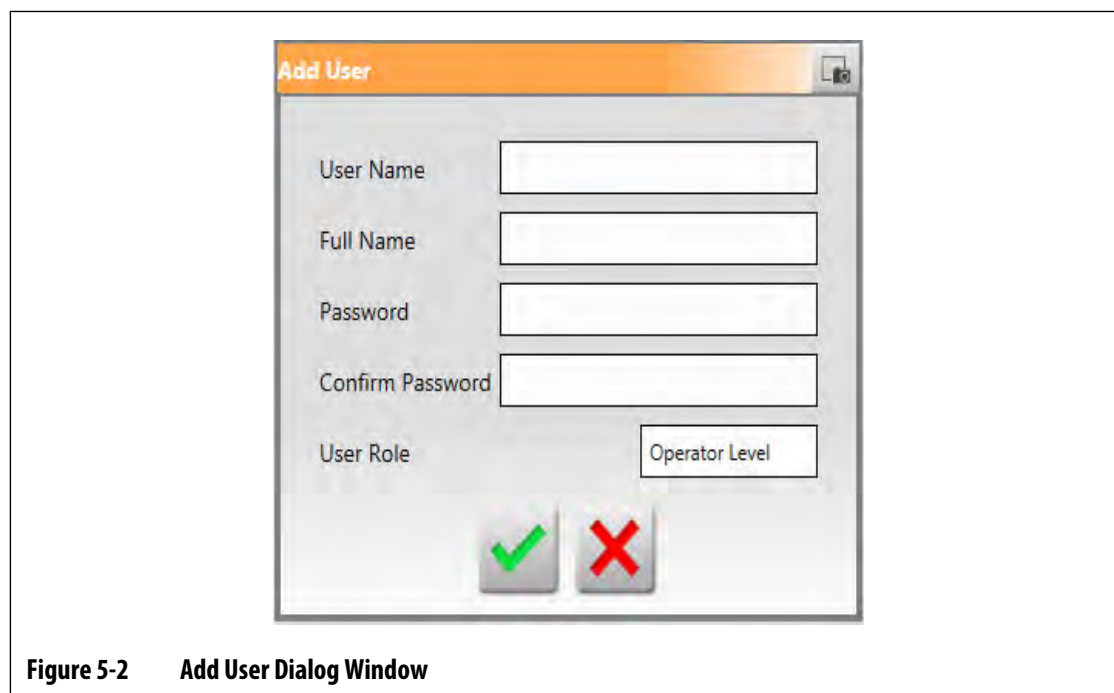

Figure 5-2 Add User Dialog Window
5. Enter or change the user information in the dialog window that shows. Figure 5-2 shows the dialog window to add a user.